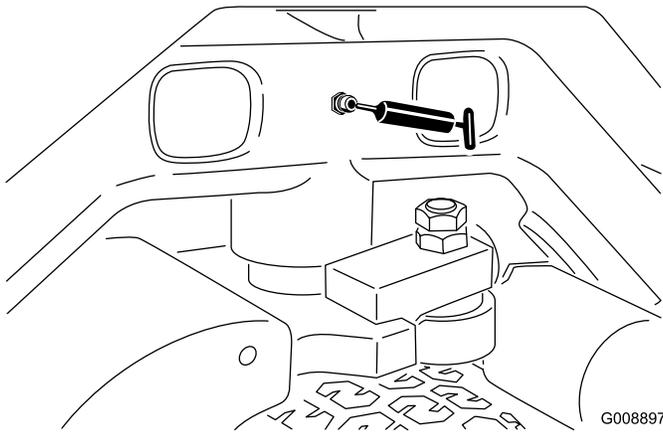

Figure 32
- Pivot de direction (Figure 32)